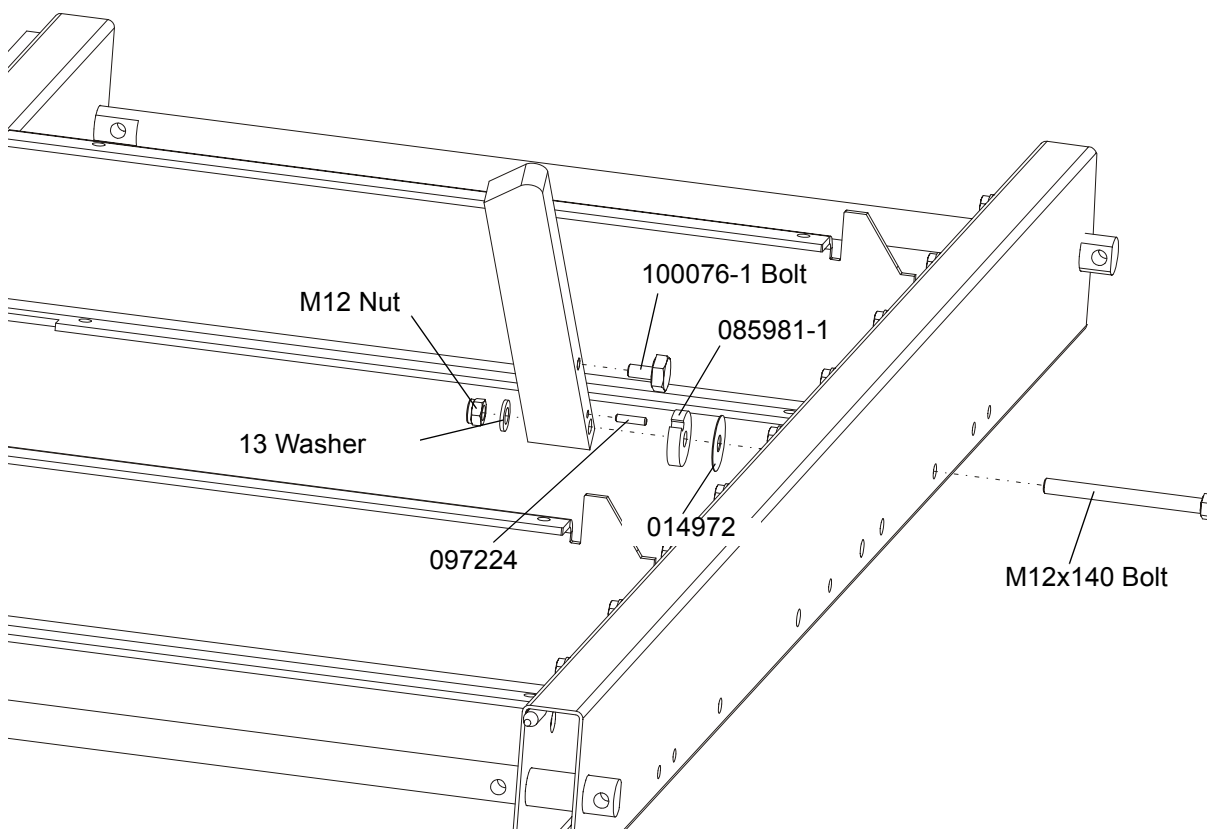

FIG. 2-7
8. Install the log side supports as shown in Figure 2-7. Tighten the nuts so that the side supports can be moved with little resistance. Adjust the side supports. See Section 6.11
See Figure 2-7.